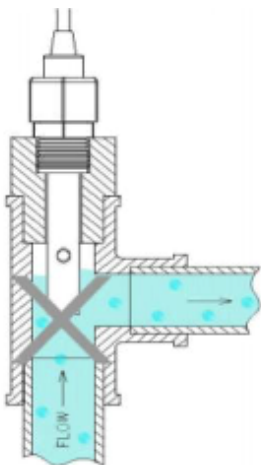

Figure 2A Wrong installation
- b. Figure 2A installation way will make conductance pool forming air cavity to lead to measurement error and unstable. Must install according to the figure below.